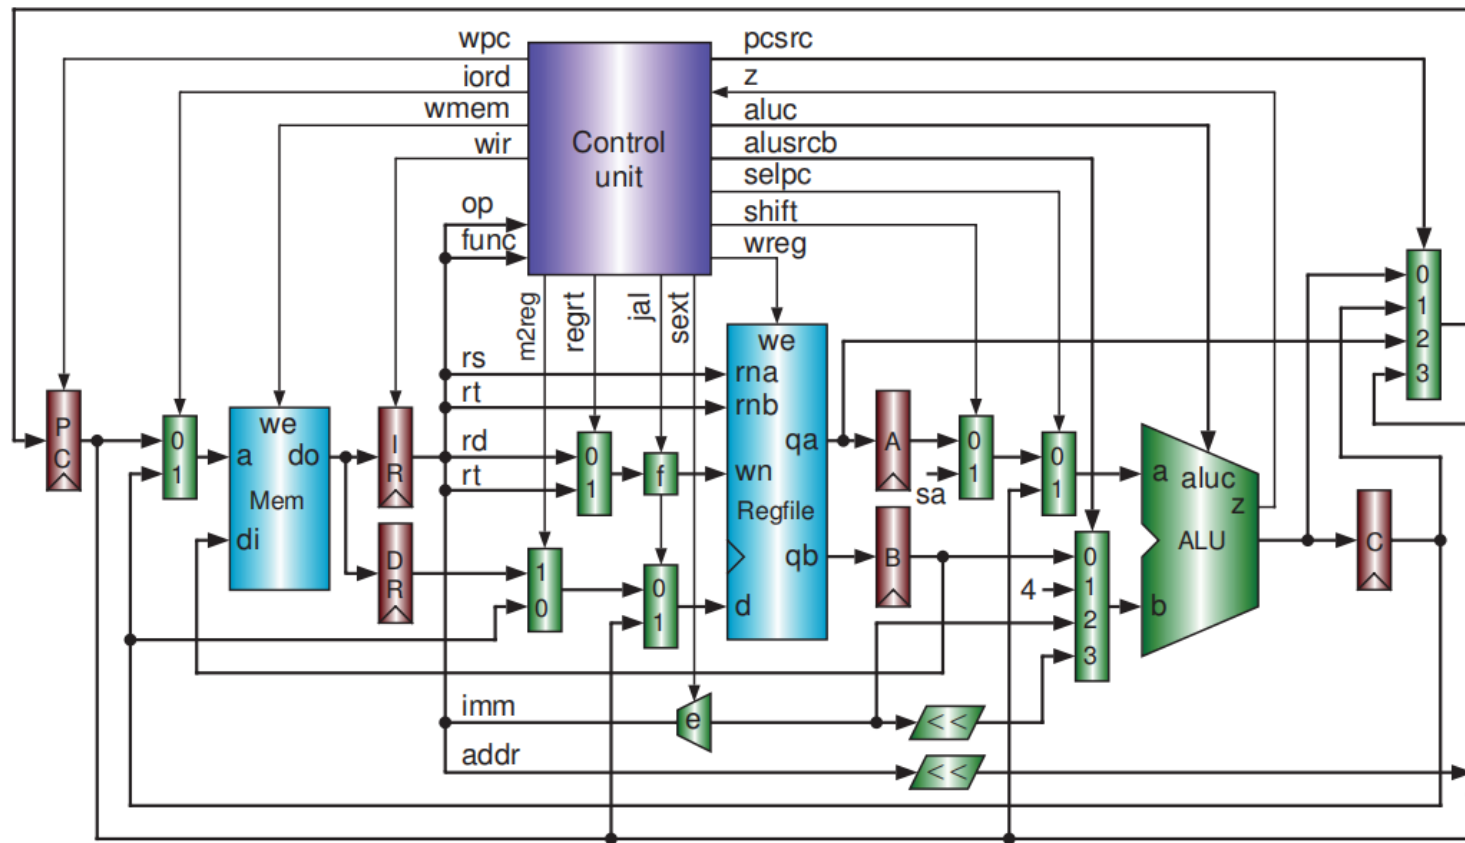

Figure 7.9 Block diagram of an MC CPU plus memory
2. *Can the registers A, B, and DR in Figure 7.9 be deleted?*